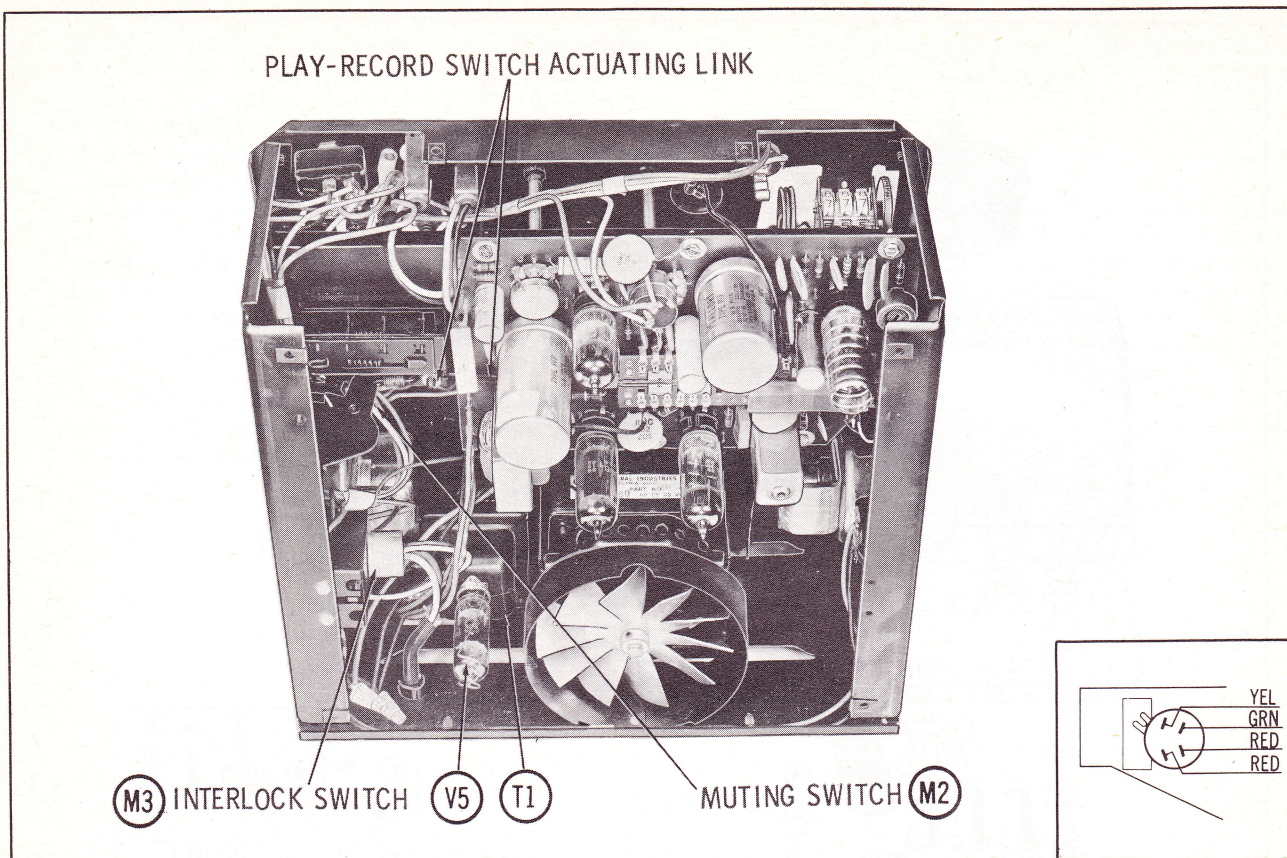

FIGURE 2
NOTE: Refer to Figure 2 for location of items mentioned below.
3. Unsolder the leads to the on-off switch and the interlock muting switch (M2 Fig. 2).